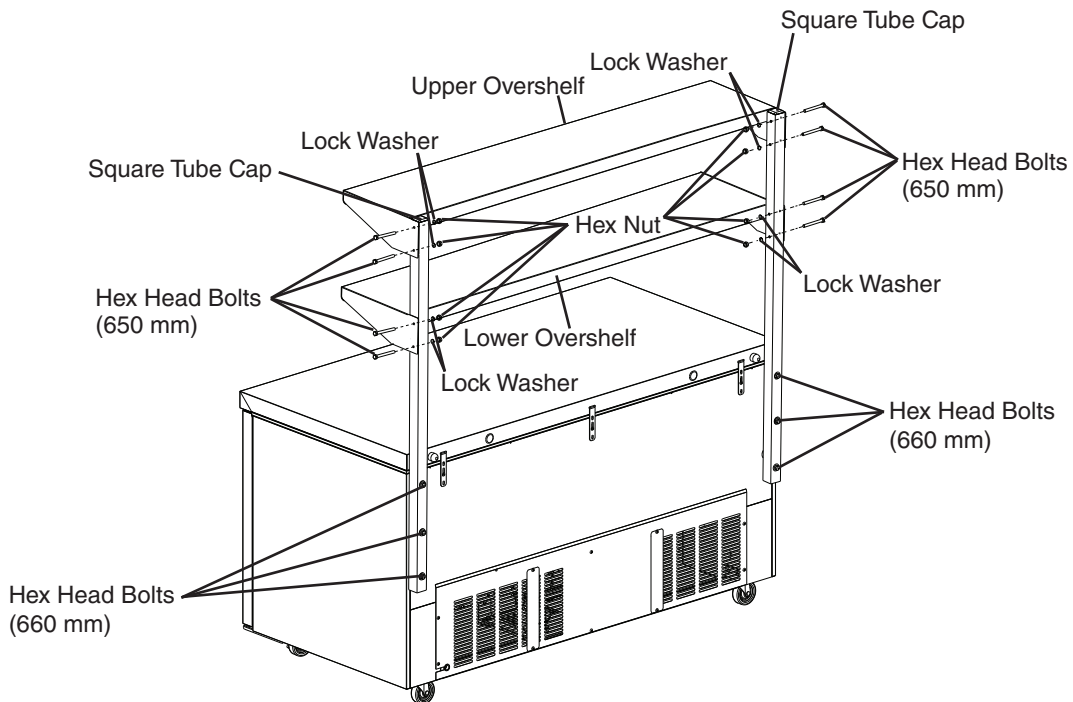

Fig. 2
- 3) **WARNING! Tip hazard. Shelves must face forward.** With the help of an assistant, place a single overshelf in position onto the square tube. Using the 4 hex head bolts, hex nuts, and lock washers provided, secure and tighten the overshelf to the outside of the square tube. See Fig. 2. For double shelf kits, repeat step 3 to install the second overshelf.